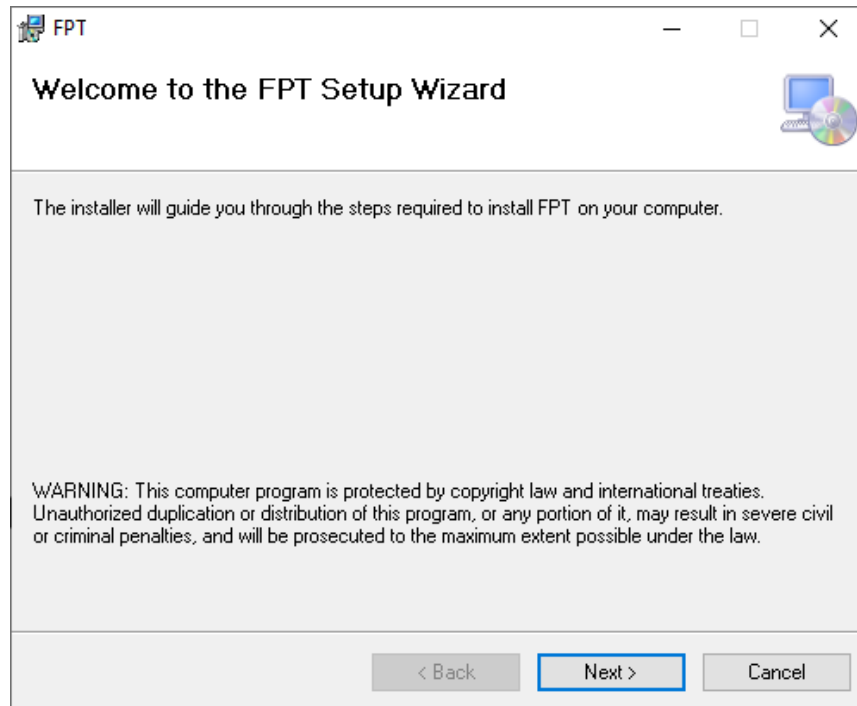

Figure 26 - FPT Installer
6. If successful, the FPT closes and an installer window appears (Figure 26).